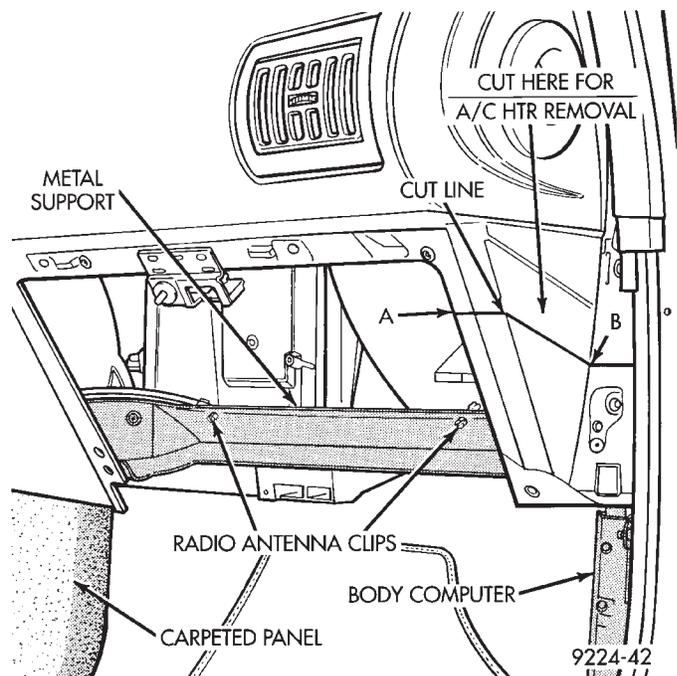

Fig. 6 Cut Line For A/C-heater Removal—AG/AJ Body
(1) Disconnect the battery negative cable.
(2) Drain the coolant from cooling system. Refer to Group 7, Cooling System.
(3) Remove the air-conditioner expansion valve (if equipped).
(4) Disconnect the heater hoses from heater core. Then plug or cap the tubes on heater core. This will prevent spilling coolant into the interior of vehicle during unit removal.
(5) Remove the condensate drain tube.
(6) Disconnect the A/C-heater vacuum supply line from vacuum supply nipple (in the engine compartment).
(7) Remove the four A/C-heater assembly-to-dash panel attaching nuts.
(8) Remove the passenger side front seat. Refer to Group 23, Body.
(9) Remove the kick panel/sill cover at right door opening.
(10) Remove the body computer (Fig. 6) located at the lower right section of the right front door pillar.
(11) Remove the glove box assembly. Refer to Group 8E, Instrument Panel.
(12) Remove the carpeted panels from both sides of the console.
(13) Un-clip the radio antenna cable from the metal support (Fig. 6) located behind and below the glove box opening.
(14) Instrument panel removal is not necessary to remove the A/C-heater assembly from the vehicle. Although, part of the lower instrument panel must be cut. The cut line is marked: **CUT HERE FOR A/C HTR REMOVAL**.
This cut line is stamped (indented) into the right-outer side of the instrument panel padding (outboard of the glove box opening). Using a hacksaw blade, cut the instrument panel padding along the indented line from point A to point B (Fig. 6). **CUT THE PLASTIC ONLY.** Do not cut the metal support behind the instrument panel padding.